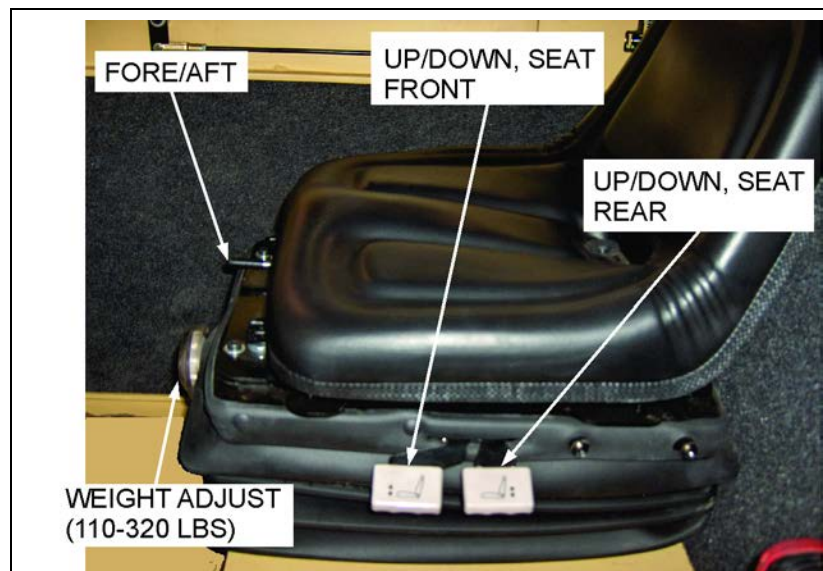

Figure 1-4. Seat
3. The service brake pedal is to the left of the accelerator pedal. See Figure 1-4 for hydraulic brakes. In the event of an engine failure, braking is still by application of the service brake pedal. Hydraulic brakes are power boosted so will be harder to apply with loss of power. If necessary, additional emergency braking can be obtained by application of the park brake.